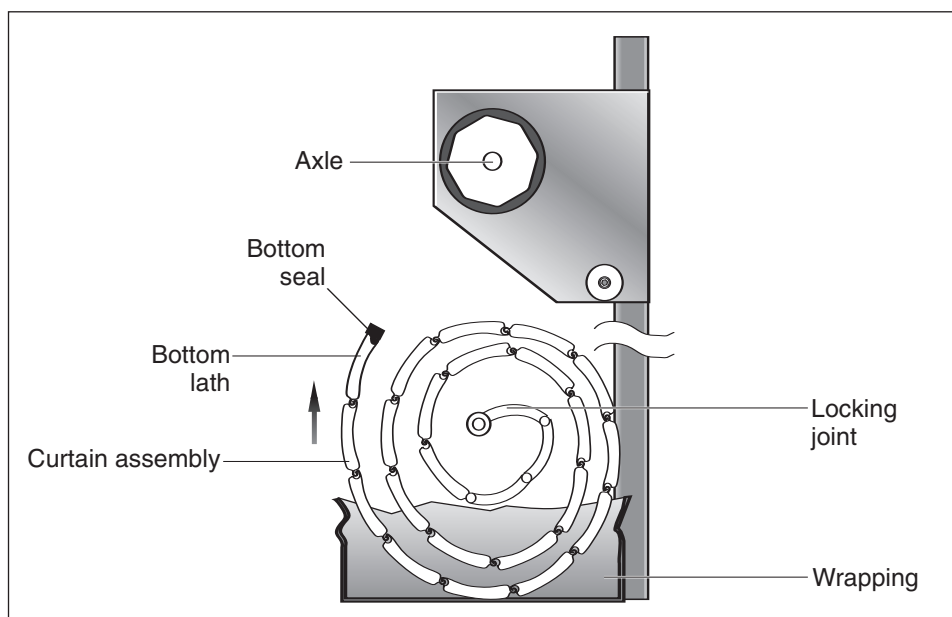

Fig 15
- 6.2** Carefully position the curtain assembly in the door aperture, below the axle as shown in **Fig. 15**. Slit the packaging to gain access to the curtain but leave some packaging to protect the curtain.